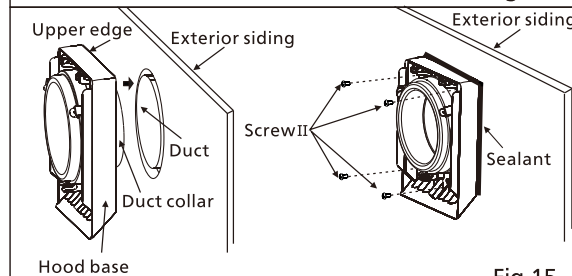

Fig.15
15. Insert duct collar into duct and adjust the upper edge of hood base to horizontal. Secure hood base by using screwII (ST4.2x20) in accessory and seal the gap between the wall and hood base by sealant. (Fig. 15)